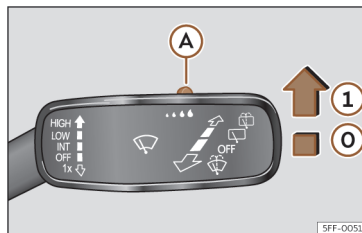

Fig. 104 Windscreen wipers lever: adjust the rain sensor (A).
Push the lever to the desired position >>> Fig. 104.
- ① Rain sensor on; automatic wipe if necessary.
When the ignition is switched off and then back on, the rain sensor stays on and starts operating again when the windscreen wipers are in position >>> Fig. 104 ① and the vehicle is travelling at more than 16 km/h (10 mph).